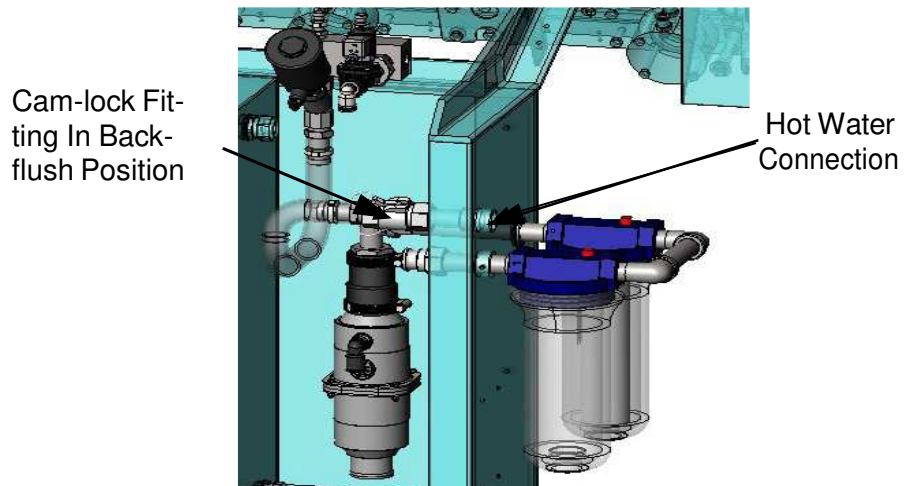
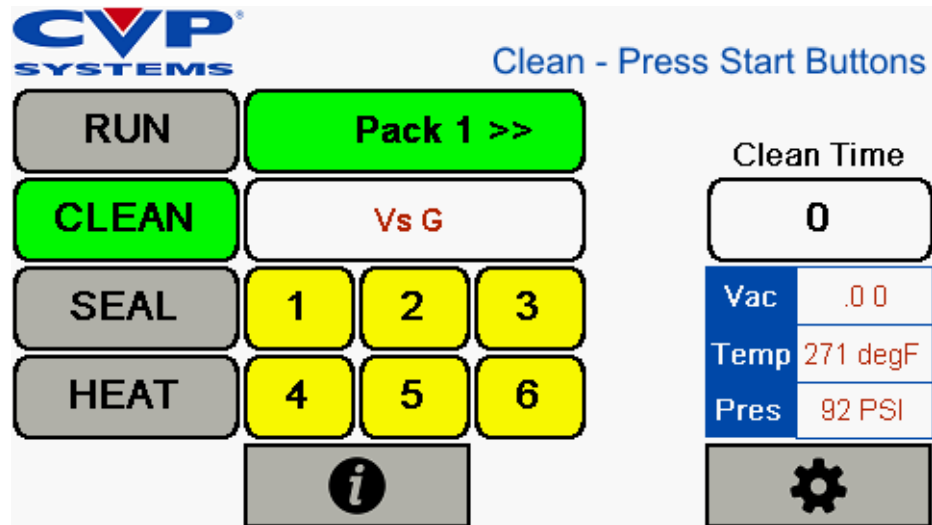

Figure 9-2. Backflush Configuration
Figure 9-3. Clean Mode Display
Connect a hot water source to the 3/4" NPT pipe coupling on the left side of the machine, above the sediment/filter bowls (see Figure 9-2).
2. Move the position of the cam-lock fitting from the sediment/filter bowl, to the hot water connection (See Figure 9-2 and Figure 9-3).
9. Return the cam-lock fitting to it's normal position, connected to the sediment/filer bowls (See Figure 9-2).